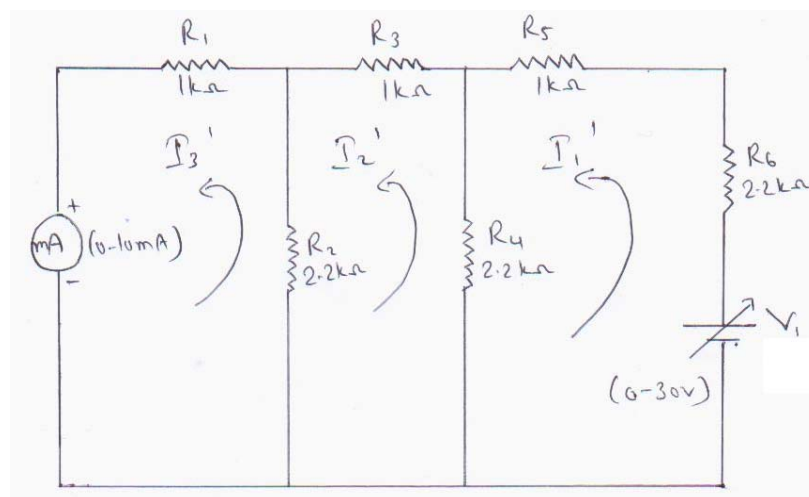

Figure 5.3
4. Now interchange the position of ammeter and Variable voltage supply  $V_1$  as shown in figure 5.3.